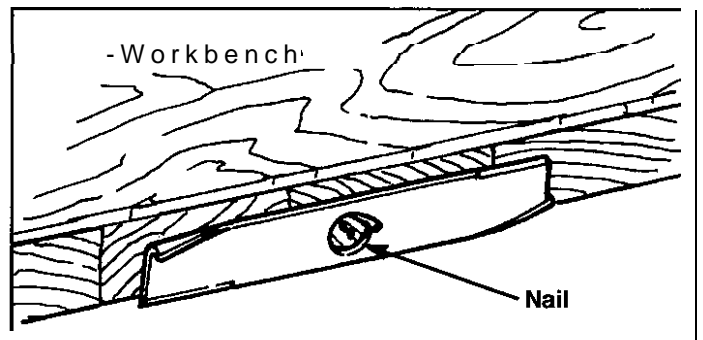

Figure 15. Balancing The Blade
5. Balance the blade as shown in figure 15. Center the blades' hole on a nail lubricated with a drop of oil. A balanced blade will remain level.